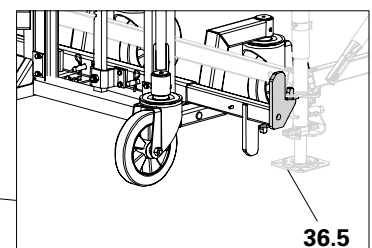

Fig. C1.02b
- the bottom connector (**36.5**) engages with the rosette, (Fig. C1.02b)